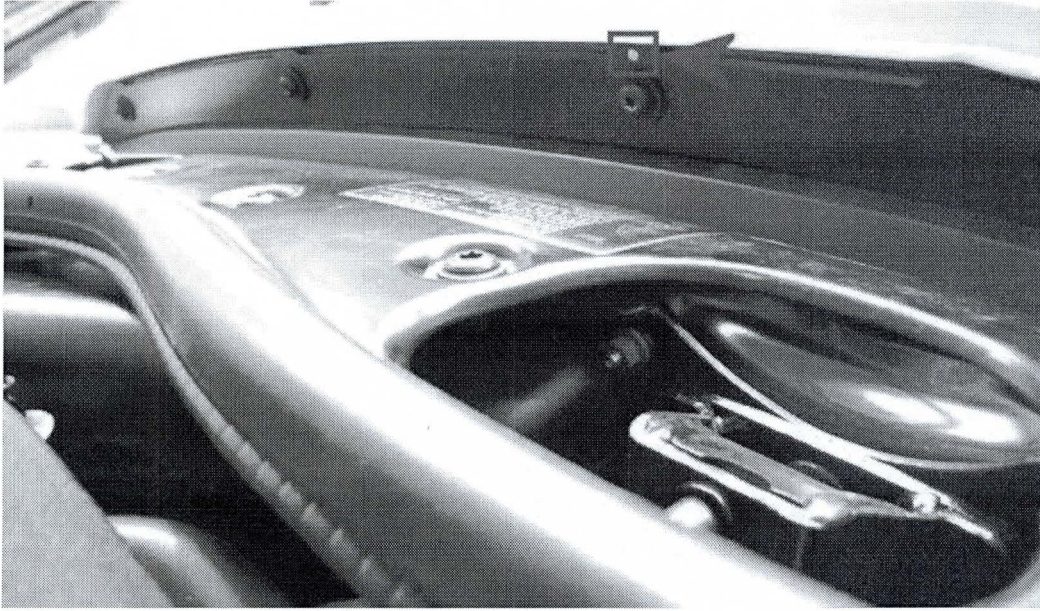

Figure 4
If the vehicle is not already listed as repaired in the "Repair history" (in Elsa pro), check for the campaign identification mark which is a small White paint dot located above the radiator shell fixing directly above the label (Figure 4) should neither be evident carry out the required work in accordance with instructions
2. Once the check has been conducted or the label has been replaced place a small white confirmation mark above the radiator shell fixing which is directly above the label (Figure 4)
Small White confirmation paint dot above the radiator shell fixing (Figure 4)